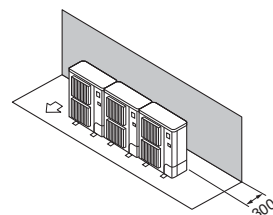

Fig. 2-8
- ⑦ Obstacles at rear, sides, and above only (Fig. 2-8)
- ① Obstacles at rear only (Fig. 2-8)